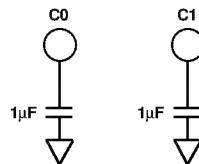

Figure 18. AD1849K External Filter Capacitor Connections
Figure 18 illustrates signal-path filtering capacitors, C_0 and C_1 . The AD 1849K must use 1.0 μ F capacitors.
- The Analog Devices AD 1849K uses two external capacitors to complete its internal input filter as shown in Figure 18. The CS4215 calls the two pins on the AD 1849K for these capacitor connections, "no connects." By laying out a board with these capacitors, either chip will work.